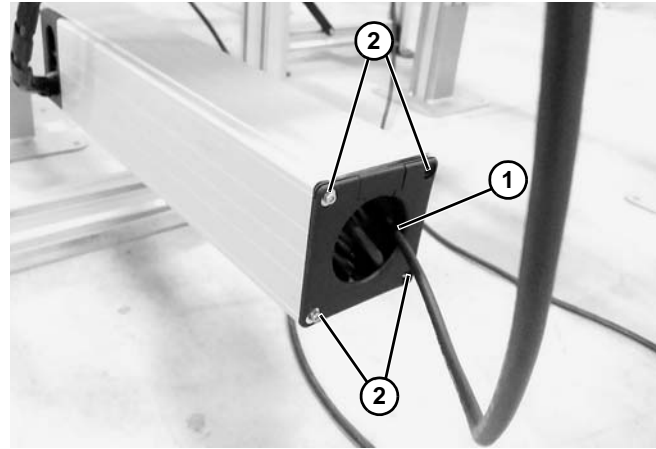

Figure 22
20. Insert enclosure end caps. If wiring from enclosure to enclosure, use end caps with hole (**Figure 22, item 1**).
21. Fasten end caps with four screws (**Figure 22, item 2**).